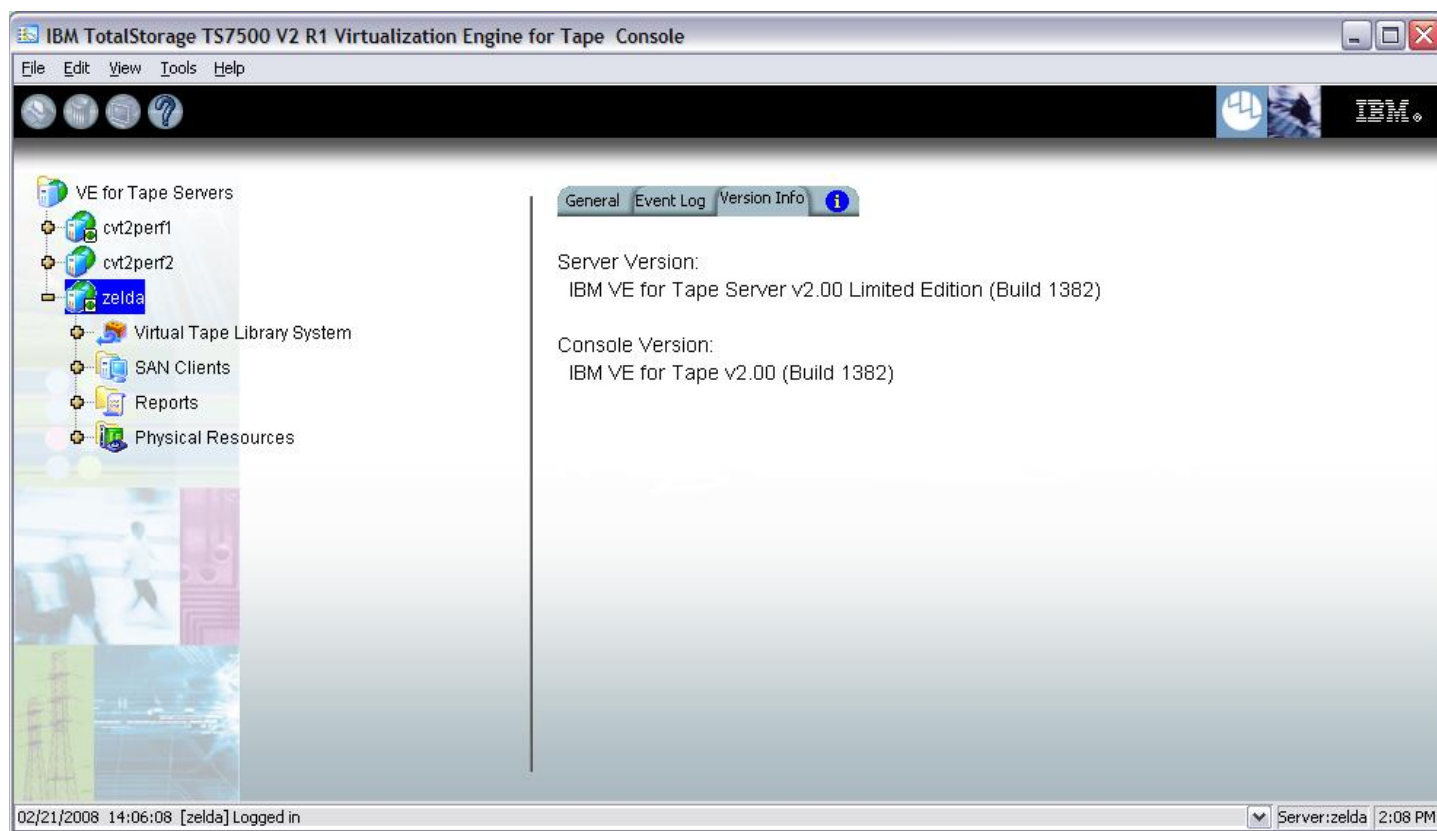

Figure-1
5. Click on the VE Console *Version Info* tab (refer to Figure-1) to see what patches you have installed. If you see update-ve13821201 mentioned in the version info, then you already have Patch 12 installed. Please close the VE Console after you have verified this information.